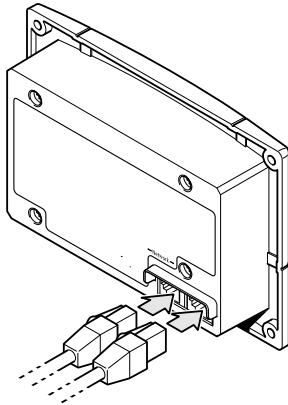

Figure 2-6 Connecting the Network Cables
5. Connect the Xanbus cable(s) (and terminator if necessary) to either network input on the back of the SCP. See Figure 2-6.
4. Connect the Xanbus cable(s) (and terminator if necessary) to either network input on the back of the SCP. See Figure 2-6.